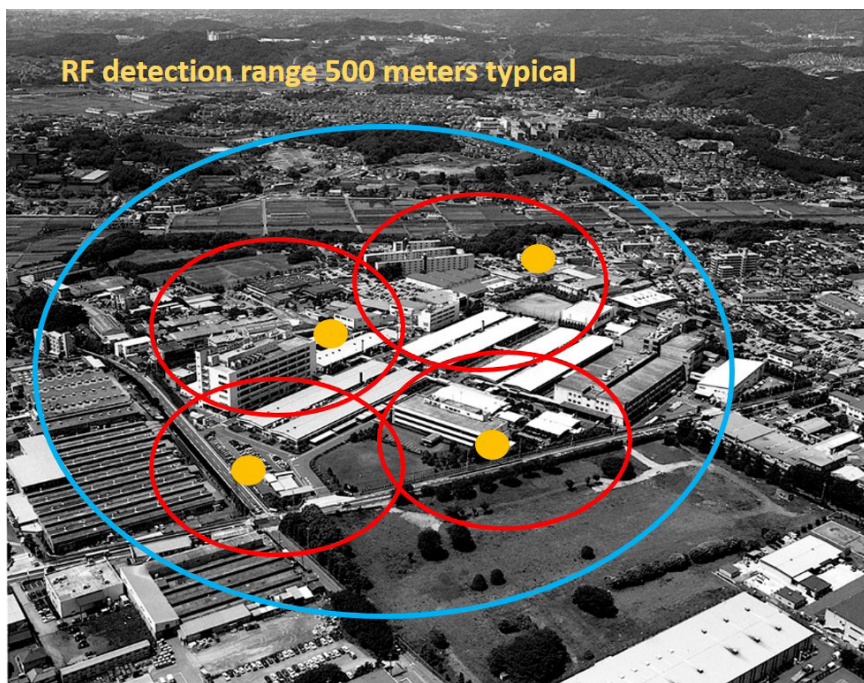

Figure 7. Configuration for drone detection
1. A minimum of three Remote Spectrum Monitors must be spaced no more than 500 meters apart in a triangular formation to maximize drone detection functionality (see Figure 7). Up to 24 Remote Spectrum Monitors can be supported for the detection phase to increase area coverage (the number of Remote Spectrum Monitors supported is a function of PC/server capabilities). Actual range is predicated on drone signal strength and environmental factors.